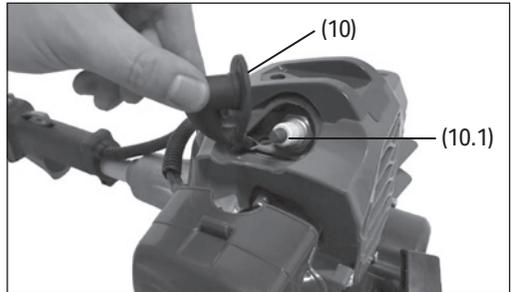
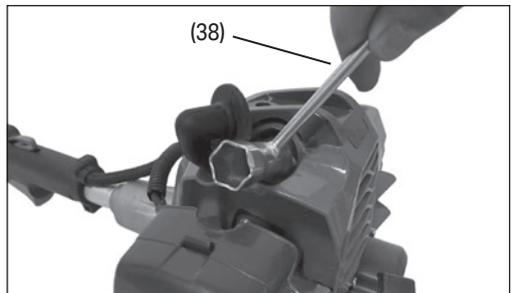

Fig.39
Fig.40
1. Set the choke lever (3) to the closed position to prevent any debris entering the carburettor inlet.
2. Turn the air filter cover lock (2) anticlockwise to release the air filter cover (1).
12.3 Spark Plug Maintenance (Fig.39 – Fig.40)